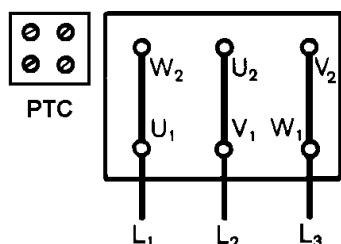

Fig. 4a
- The power wiring diagram is inside the terminal box cover (see also Fig. 4a, b).